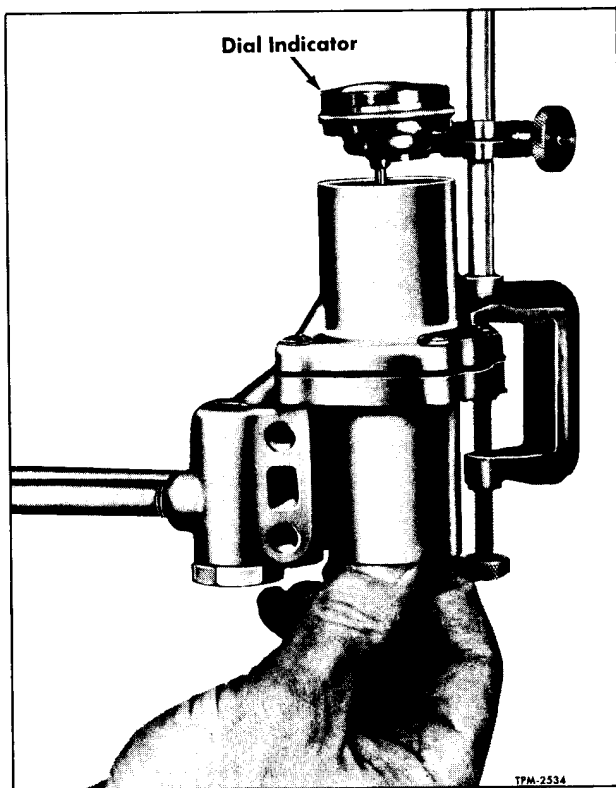

Figure 19—Checking Governor Valve Travel
1. Install exhaust stem O-ring (10) in groove between guide bushing (9) and bore in valve body (11). Install exhaust stem spring (12) and exhaust stem (13) in body, being sure stem is a neat sliding fit in body.
2. Assemble diaphragm lower follower (18), diaphragm (17), and upper follower (16) on diaphragm stem (19), making sure beveled side of both followers are toward diaphragm. Install nut (15), tighten to 10-15 inch-pounds torque, and secure with cotter pin (14). Bend both legs of cotter pin toward the diaphragm.
3. Install O-ring (20) in groove in diaphragm stem (19). Install diaphragm and stem in spring cage (21), making sure stem is a neat sliding fit in bore in spring cage.
5. Install strainers (22), felt washers (23), and strainer screw caps (25) in bottom of spring cage, using strainer cap O-rings (24) in grooves in screw caps. Tighten screw caps firmly.
6. Measure total valve travel (fig. 19) by pulling diaphragm stem down as far as possible and setting dial indicator at zero when contacting top of exhaust stem. Push diaphragm stem completely in and read total valve travel on dial indicator. Total travel should be 0.060" to 0.098".
7. Install O-ring (6) in groove on inlet valve seat (7), then install inlet valve seat and inlet-exhaust valve. Repeat the above check starting with